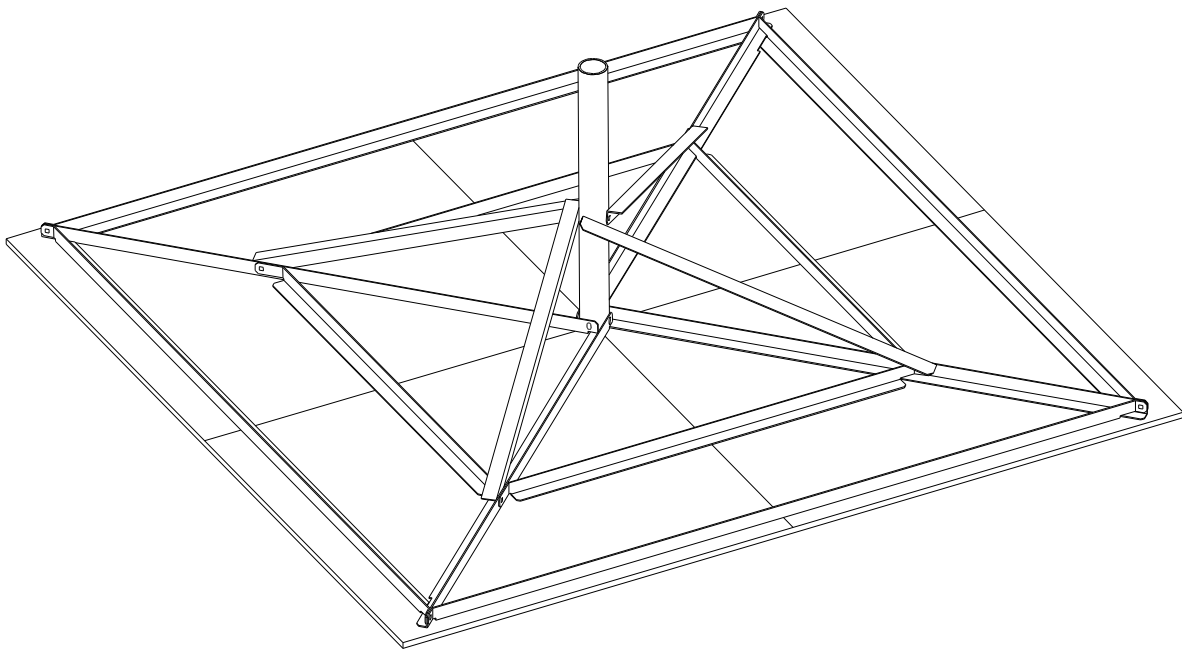

Figure 1
A). Attach the (4) mast brace angles (item 5) to the mast pipe with 3 / 8" hardware (items 8, 10, 11 & 12). Each brace must attach to the side of the mast pipe opposite its corresponding diagonal brace. Refer figures 1 and 2. Snug only.
- A). Position the (4) inner brace angles (item 3) as shown. Use Step 8 below for reference to the angle orientation.
- A). Attach the inner brace angle (item 3) to the mast brace angle and diagonal base angle with 3 / 8" hardware (items 9, 10 , 11& 12). Note the orientation of the angles.